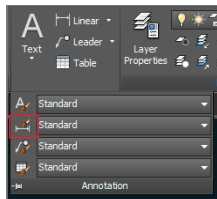

FIGURE 11.2 Accessing the Dimension Style Manager on the ribbon
1. Select the Home tab on the ribbon if it is not already selected. Expand the Annotation panel, and click the Dimension Style button (see Figure 11.2).